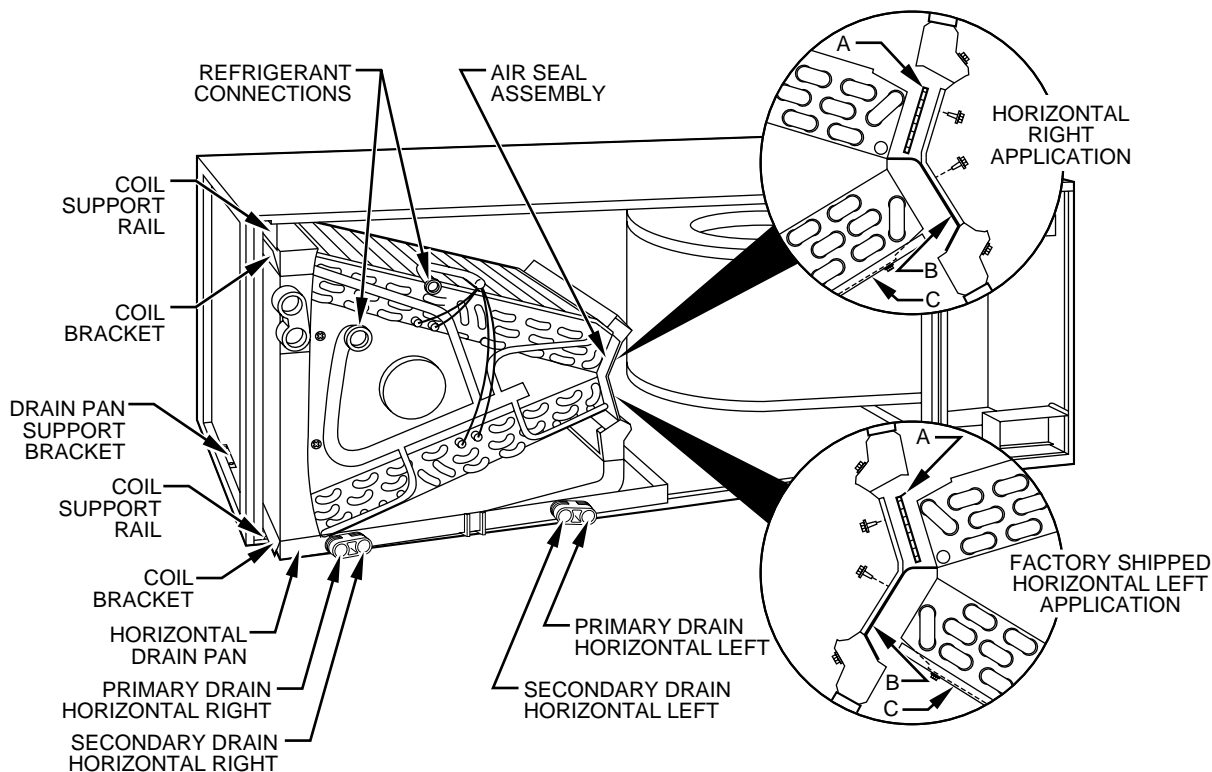

Fig. 5—Conversion for Horizontal Right Applications Using A-Coil
1. Remove blower and coil access panels. (See Fig. 5.)
- b. Remove air splitter (B) from coil seal assembly by removing 3 screws. (See Fig. 5—factory-shipped inset.)
- c. Remove filler plate (A) and install air splitter (B) in place of filler plate.
- d. Install filler plate (A) as shown in horizontal right application.
- e. Remove condensate troughs (C) and install on opposite tube sheets.